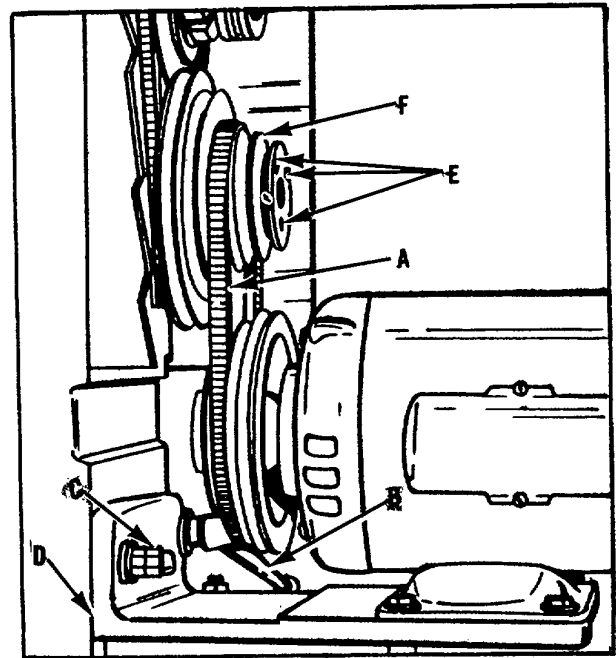

Fig. 20.
1. Remove the belt guard and the motor to countershaft belt (A) Fig. 20.
2. Disconnect the belt tension spring. Remove the motor plate clamping lever (B) and the nut (C) Fig. 20. Also remove the clamping lever located underneath the motor plate (D). Then remove the motor mounting plate, motor, and motor pulley as a unit.
3. Remove the three screws (E) Fig. 20, located on the face of the five step countershaft pulley (F), and remove the five step countershaft pulley(F).